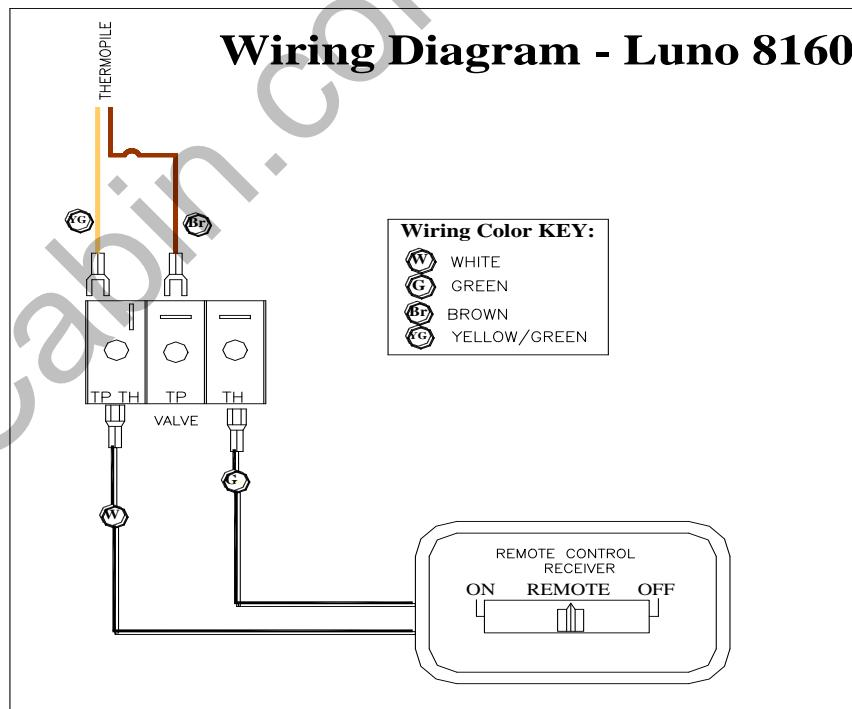
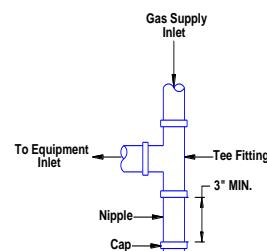

Figure 8: Luno 8160 Wiring Diagram
Figure 10: Typical Sediment Trap (required in all installations)
- ⚠ NFPA Code and Hearthstone require the use of a dedicated sediment trap just upstream of the unit. Damage to the valve or other components, due to the lack of a sediment trap (figure 10), are not covered by warranty.
Once connected to the gas supply, the supply line and manifold gas pressures must be tested. The supply line pressure is tested, to ensure it meets the minimum gas supply pressure as listed in the Specifications for the type of fuel in use (natural gas or LP), by connecting a manometer to the supply line and adjusting the incoming pressure if necessary to meet the required supply line pressure as listed in specifications. The manifold pressure tap on the gas control valve, refer to Figure 8 for location.
The pilot light is preset by the manufacturer and should not need adjustment. However, you should perform a periodic visual check of the pilot flame. The pilot light flame should be large enough to engulf the thermopile and thermocouple located next to the pilot, but not so large as to create excessive noise or consume excessive gas (Refer to figure 10). If needed, the pilot flame is adjustable by means of the pilot light adjustment screw located on the gas control valve (see figure 8). Open the valve door to access the pilot adjustment screw. Note that the pilot flame must engulf the thermopile so that the thermopile can generate sufficient milli-voltage (325 to 500-mv) to power the gas control valve. The flame on the pilot should look like Figure 10. Controlling the Luno by the remote or wall-mounted thermostat may become erratic, nonexistent, or the unit may go out, if the pilot flame is too small or misdirected away from the thermopile.
With the decorative logs out of the firebox; briefly light the unit. Check to insure a proper flame is burning from each burner port. The pilot flame should be large enough to engulf the thermopile and thermocouple as shown in *Figure 10*.